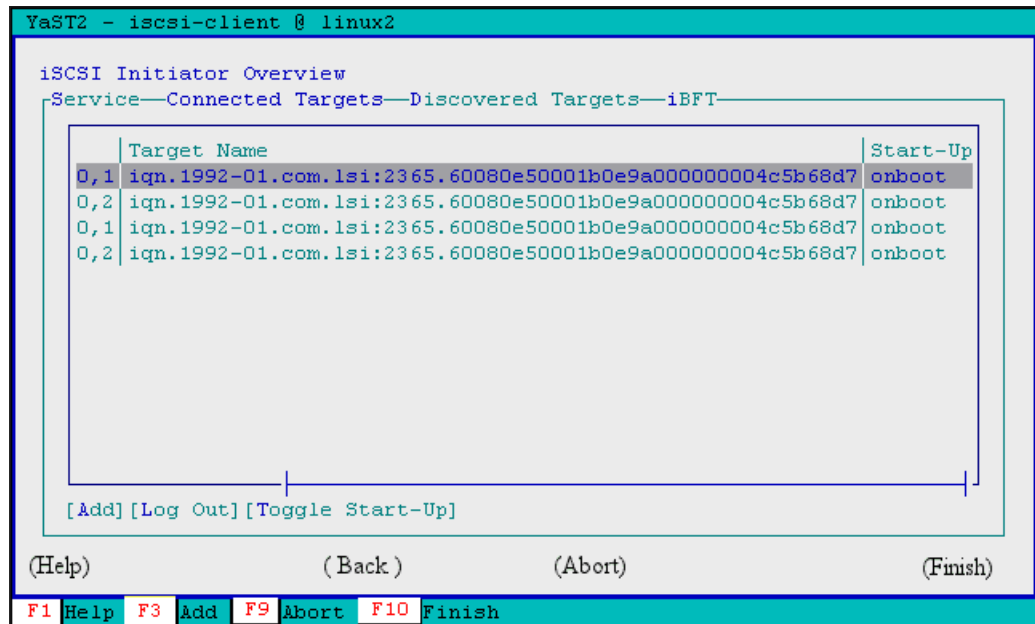

Figure 20-24 Be sure to select startup on boot for each target
10. For each connected target select Toggle Start-up to keep the connection after rebooting the server as shown in Figure 20-24 on page 607. It means that the target will be automatically connected when the service is started.